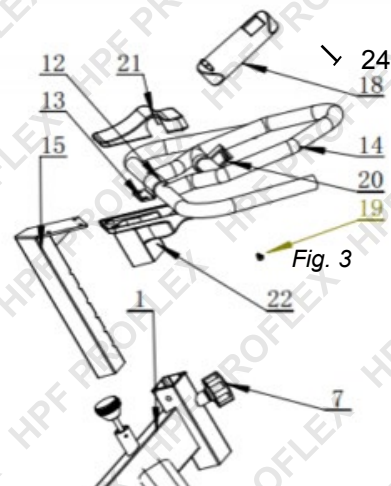

Fig. 3
6. Place the saddle assembly (10 and 11) onto the rail on the top of the saddle post (9) and secure it at the desired position with the saddle base screw (8). Firmly tighten (rotate right) the screw by hand.
7. Insert the handlebar post (15) into the frame (1), with the height adjustment holes facing forward. Secure it at the desired height with 1 post locking screw (7) – the pin on the end of the screw must enter a hole in the post to be able to secure properly. Firmly tighten (rotate right) the screw by hand.
8. See Fig. 3. Place the handlebar (14) onto the plate at the top of the handlebar post (15) and secure it using 4 screws (12) and washers (13). Tighten (rotate right) the screws using the supplied Allen key. When the handlebar is secure, place the top cover (21) and bottom cover (22) in position and secure with 4 screws (19). Tighten (rotate right) the screws using the supplied screwdriver. Be careful not to over-tighten.